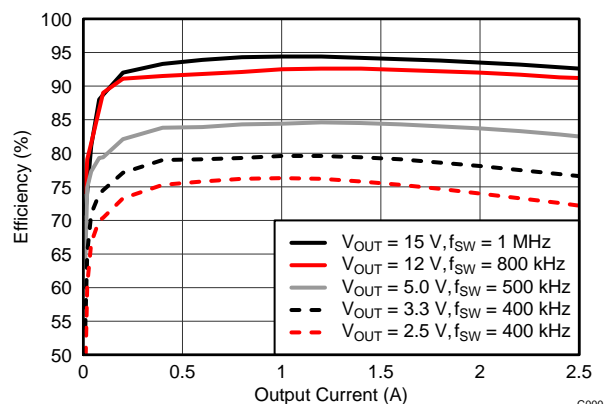
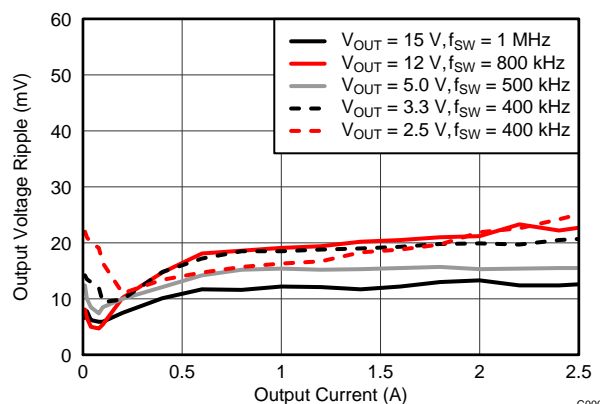
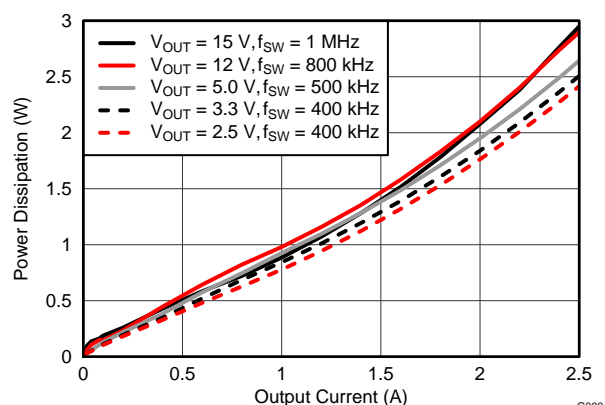

Figure 8. Efficiency vs. Output Current
Figure 9. Voltage Ripple vs. Output Current
Figure 10. Power Dissipation vs. Output Current
- (1) The electrical characteristic data has been developed from actual products tested at 25°C. This data is considered typical for the converter. Applies to Figure 8, Figure 9, and Figure 10.
- (2) At light load the output voltage ripple may increase due to pulse skipping. See Light-Load Behavior for more information. Applies to Figure 9.